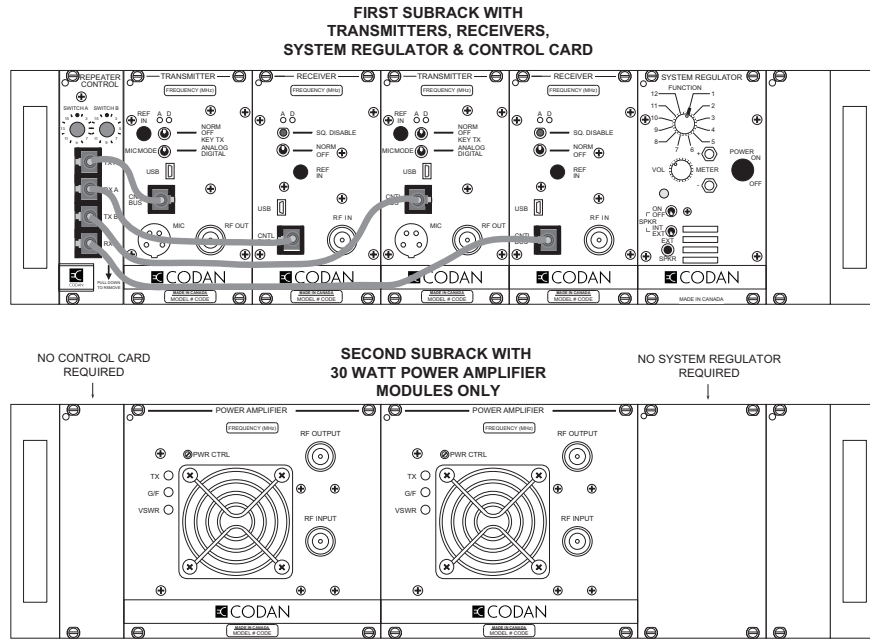

Figure 1 - Front View of Dual Subracks; Second Subrack has only Power Amplifiers
b) If the second subrack contains only Codan 30 Watt power amplifier modules (see Figure 1), the +9.5 Vdc regulated voltage current draw for these modules is very low, and the SM-3 in the first subrack can source enough current for the power amplifiers in the second subrack. In this case, a second SM-3 module is not required, and the +9.5 Vdc regulated voltage is jumpered from the first subrack with the SM-3 to the second subrack with no SM-3 module.